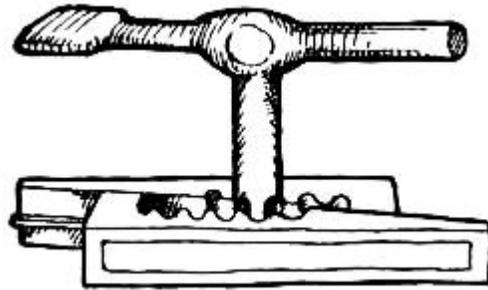

FIG. 156.—Key and Quoins.
**Locking-up a Form.**—The type is locked-up by means of iron wedges known as "quoins." There are two forms of these, those driven together by means of a "shooting-stick" and mallet, as shown in Fig. 155, and those locked by means of an iron key, such as is shown in Fig. 156. The latter kind is probably the most commonly used to-day. Before locking the form, the type should be levelled with a planer, which is nothing more than a block of hardwood with a smooth, even surface. The planer should be set upon the type and given a few light raps on the top with the hammer, until the face of the type is even. Then lock the form securely, being careful to have as